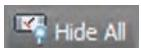

**FIGURE 12.4** Applying Equal constraints to adjacent sides turns the rectangle into a square.
- 10.** Select the Equal constraint tool in the Geometric panel. Click lines A and C in Figure 12.3. The rectangle becomes a square (see Figure 12.4).